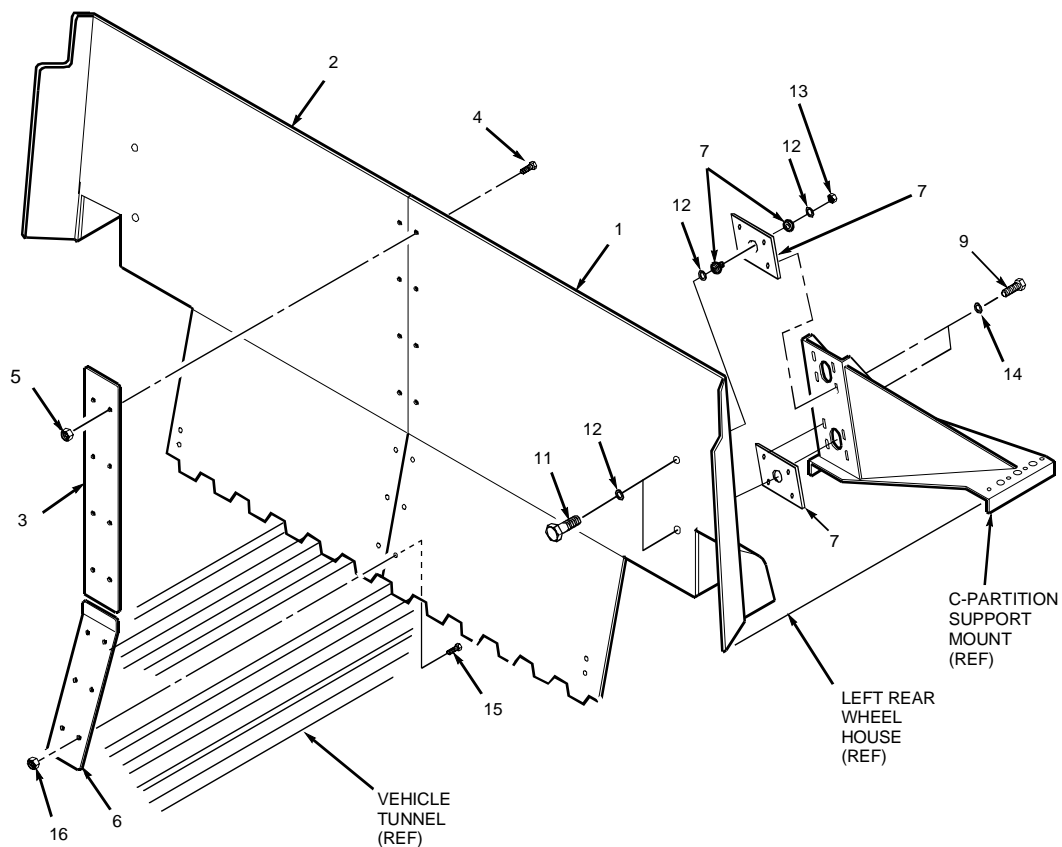

Figure 2-14. Upper C-Partition Removal (4 Door Only)
3. Remove Upper C-partition as follows (see figure 2-14).
- a. Remove two capscrews (11), six washers (12), and two locknuts (13). Discard locknuts (13). Repeat step on opposite of vehicle.
- b. Remove eight capscrews (9), washers (14) and two mount bracket isolators (7). Repeat step on opposite of vehicle
- c. Remove eight capscrews (4) and locknuts (5). Remove upper C-partition gap strip (3).
- d. Remove six capscrews (15) and locknuts (16). Remove lower C-partition gap strip (6).
- e. Remove left C-partition (1) from vehicle. Remove right C-partition (2) from vehicle.